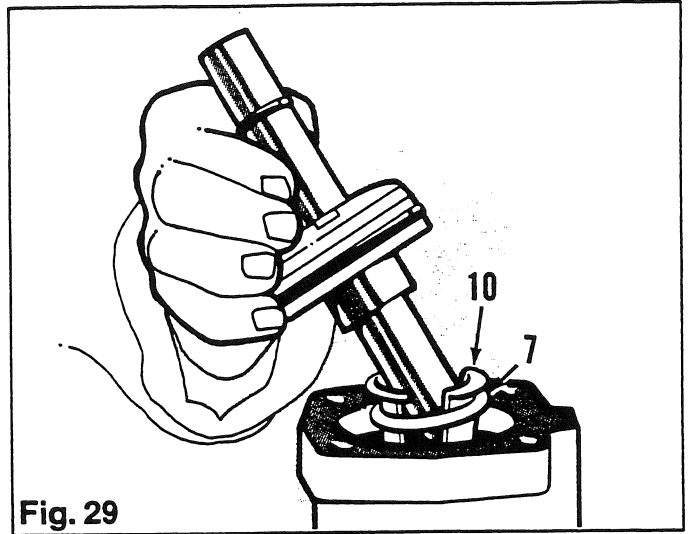

Fig. 29
10. Install the return spring (7) and spring retainer (10) in the housing, followed by the valve piston assembly. (Fig. 29)
11. Lubricate a new "O" ring (11) and install it in the end cover (5).